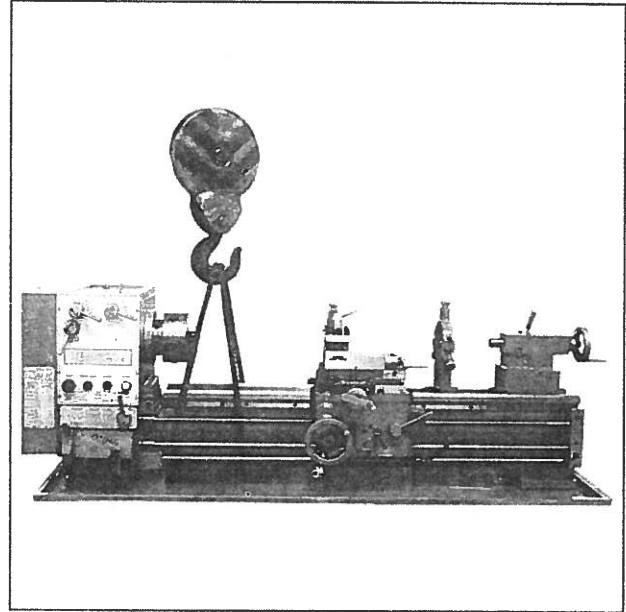

Fig. 1
4. Sling lathe with adequate lifting equipment, slowly raise the lathe off the shipping crate bottom. See Fig 1. Make sure lathe is balanced before moving to sturdy bench or optional stand. (Note: Do not lift the lathe by the spindle.)